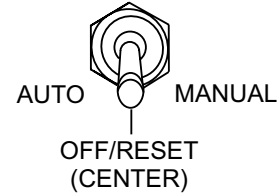

Figure 55. Auto Off/Reset Manual Switch (OFF)
1. Place the **Auto Off/Reset Manual Switch** (Figure 55) in the **OFF/RESET** position.